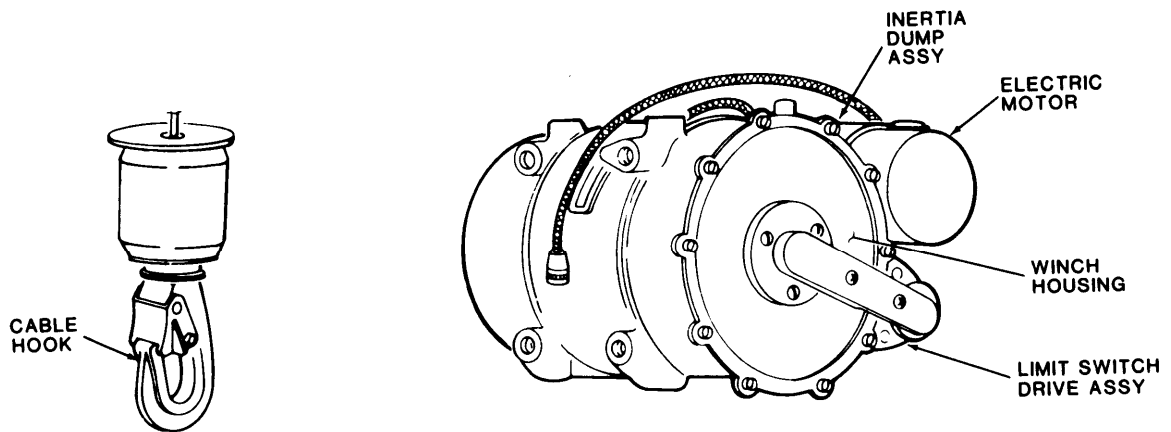

Figure 1-3. Winch Assembly
a. The winch assembly (Figure 1-3) consists of a winch mechanism, limit switch drive assembly, electric motor, brake cooling pump, automatic clutch and brake assembly, inertia dump assembly, and the cable hook.